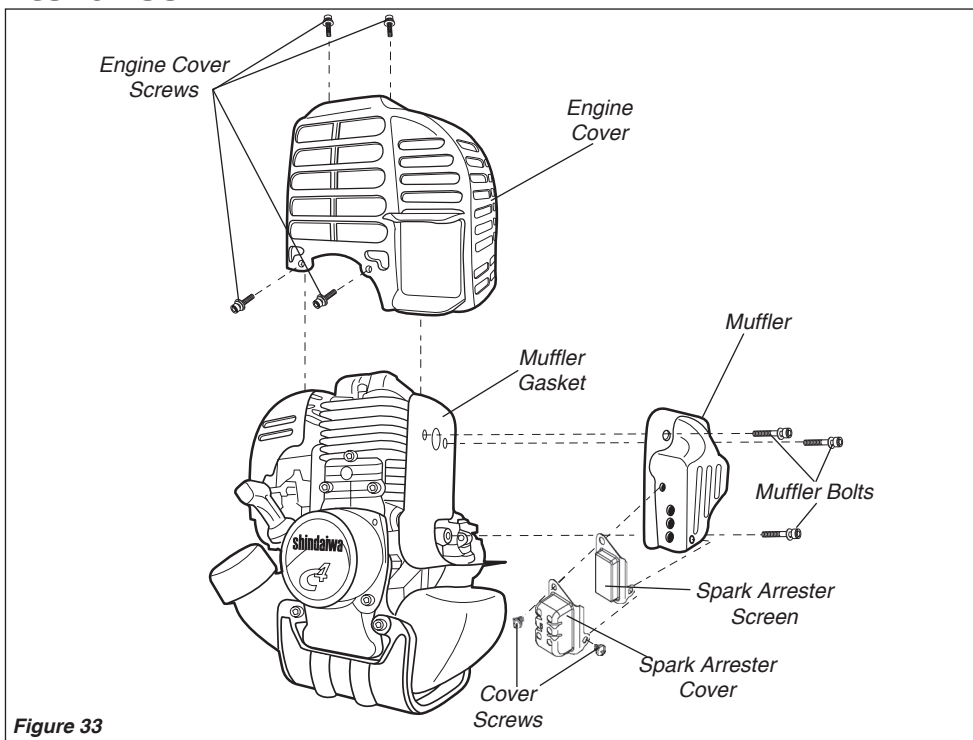

Figure 33
1. With a 3 mm hex wrench remove the 4 engine cover screws and the engine cover. See Figure 33.
2. With a 4 mm hex wrench remove the 3 muffler bolts and the muffler. See Figure 33.
3. With a small flat bladed screwdriver remove the 2 screws holding the spark arrester screen and cover to the muffler. See Figure 33.